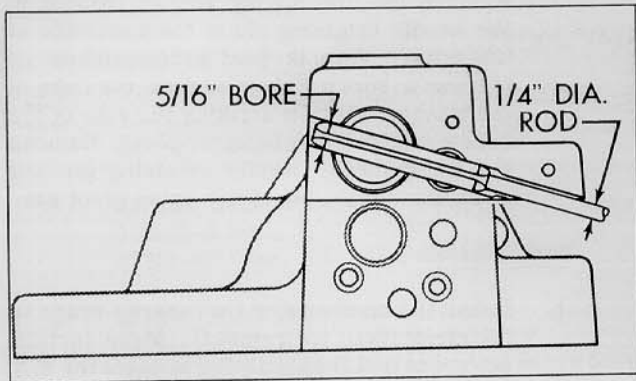

Figure 7
3. Drive this roll pin clear of the kick-off valve bore, using a 1/4" diameter rod or drift inserted in the pilot hole at the bottom face of the handle pivot ear on the valve body. See Figure 7.
**IMPORTANT:** Move the roll pin only in the direction shown in Figure 7. If the pin is driven from the opposite end, it will be tightly compressed into the 1/4" pilot hole.